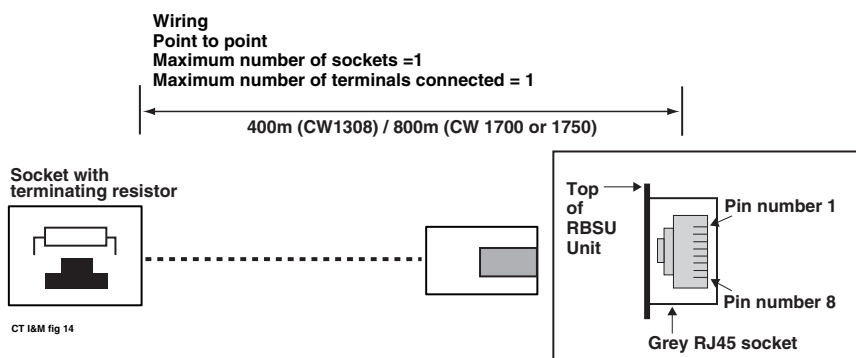

Figure 5-17 Point to Point Wiring
To control electrical characteristics, a 100-ohm terminating resistor (TR) is required at the end of the passive bus. One resistor should be across the Tx pair and one across the Rx pair at either end of the passive bus. Branch-type passive bus configurations, shown in Figures 5-17~5-19, may only require a TR on the RBSU/RBSS NT circuit side and not on the TE or TA device side of the bus.